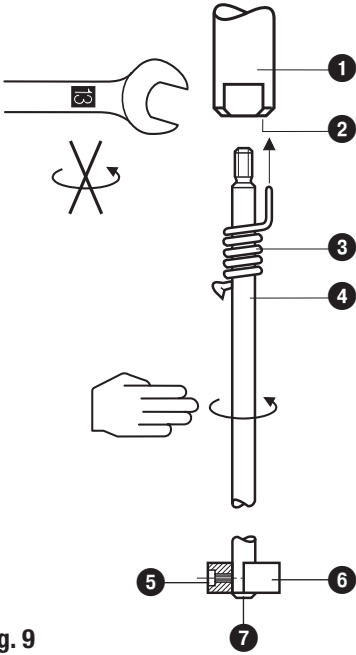

Fig. 9
1. Screw electrode tip ④ into measuring electrode ①. **Fig. 9**
3. Mark length of electrode tip ④.
4. Unscrew electrode tip ④ from measuring electrode ① and cut tip.
5. After visual inspection screw electrode tip ④ into measuring electrode ①. Slide spring ③ along electrode tip ④ so that its end completely enters the small hole ②.
6. Mounting the measuring surface extension: Fit disk ⑥ to electrode tip, making sure that the electrode tip protrudes 2 mm beyond the bottom of the surface extension disk. Fix the disk in this position with the set screw ⑤. Push supplied lock washer ⑦ from below over electrode tip and against surface extension disk ⑥.